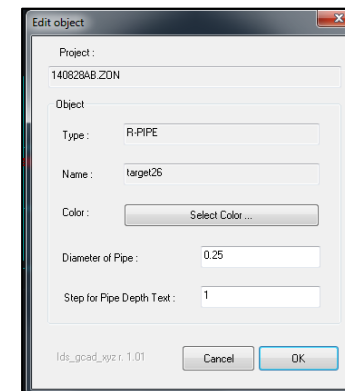

Fig. 138 - Information command window
14. The **Object Information** command () transforms the AutoCAD cursor into a white square; by selecting any desired item the window show in Fig. 138 will appear. This window will display all the general
information regarding the Project, Zone and about the selected object (Fig. 138); here the User can decide to edit the following fields: